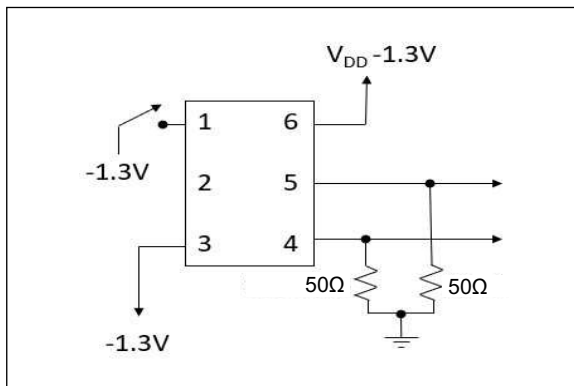
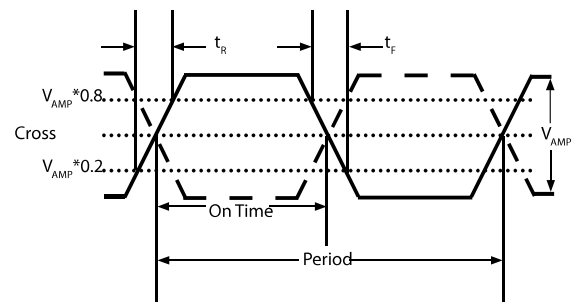
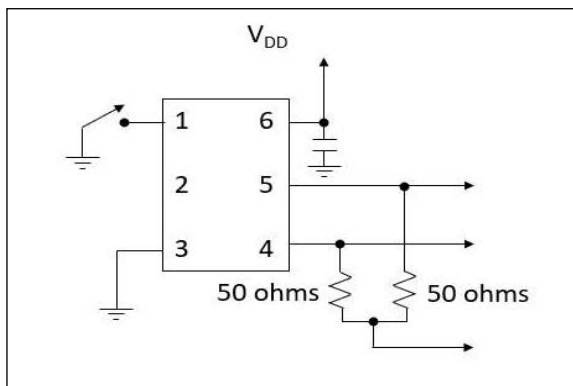

FIGURE 1-1: Test Circuit.
FIGURE 1-2: Test Circuit Parameters.
FIGURE 1-3: Test Circuit.
- 2:** Figure 1-1 defines the test circuit and Figure 1-2 defines these parameters.
- 2:** Figure 1-3 defines the test circuit and Figure 1-2 defines these parameters.